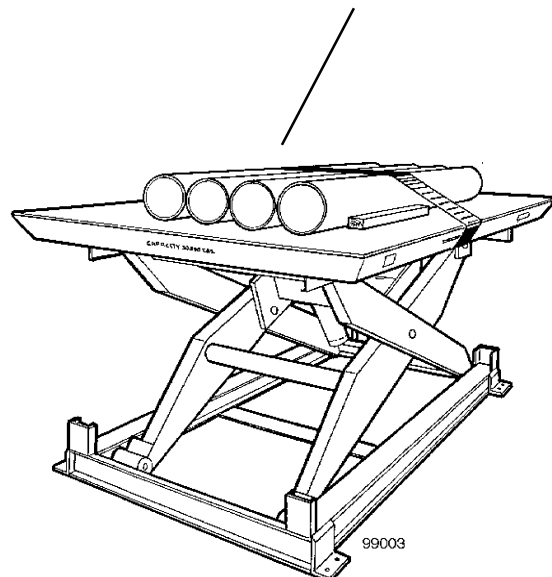

Fig. 5 – Secure the Load
- If you are lifting pipes or other objects which may be able to roll or move, fasten them down, or chock them as shown in Figure 5.